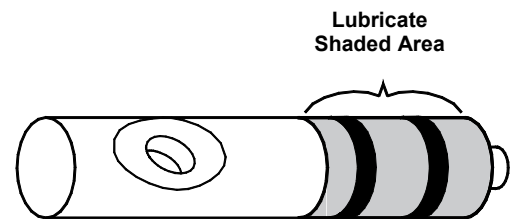

Fig. 19
- Install the two o-rings on each spigot plunger (double o-ring on the plunger with vertical grooves) by rolling them onto the plunger. Seat the o-rings in the grooves making certain that they are not twisted. Smooth the lubricant into the grooves and over the sides of the plunger assemblies (Fig. 19).